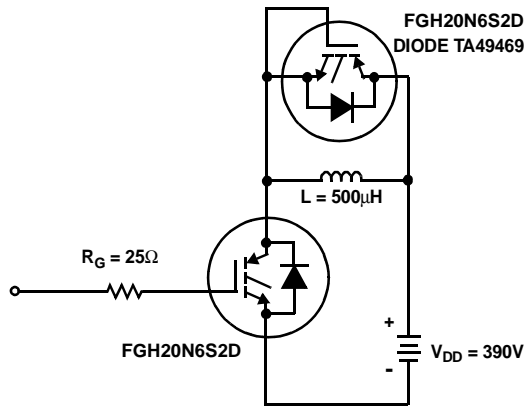

Figure 26. Inductive Switching Test Circuit
1. Values for two Turn-On loss conditions are shown for the convenience of the circuit designer. E_{ON1} is the turn-on loss of the IGBT only. E_{ON2} is the turn-on loss when a typical diode is used in the test circuit and the diode is at the same T_J as the IGBT. The diode type is specified in figure 26.